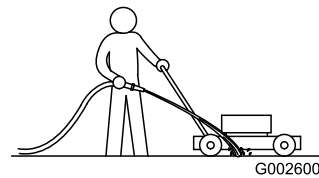

Figure 15
3. With the motor running and the blade engaged, spray a stream of water in front of the **right**, rear wheel (Figure 15).